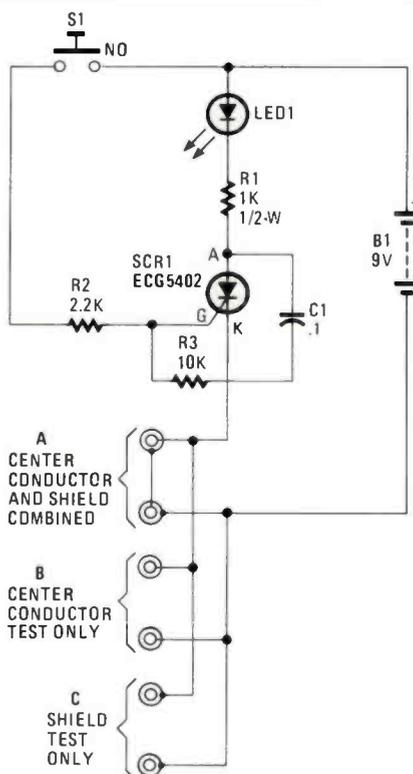
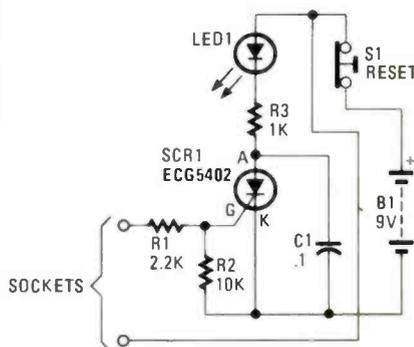

Fig. 1—Open-Circuit Detector
Fig. 2—Short-Circuit Detector
If I had not had the two simple cable-test sets, Murphy would have had me in a most embarrassing predicament. But, as it ended up, I made a good show out of what could have been a very bad and costly one, by using the two cable-test sets shown in Fig. 1 and Fig. 2.
The circuit in Fig. 1 is designed to check almost any two-conductor cable for open-circuit conditions that usually only show up when the cable is moved about—most often referred to as the intermittent open-circuit cable syndrome. The Open-Circuit Detector uses a single active solid-state device, a low-current silicon-controlled rectifier (SCR1) to act as a forget-me-not circuit, that will remember to supply current through the LED as long as the return current path through the cable under test remains complete.
If an intermittent-open cable isn't enough for Mr. Murphy, he will introduce you to that infamous *will-o'-the-wisp* short circuit that can come and go at will. Never fear, 'cause we've got Murphy covered on this one too. The ultra-simple circuit in Fig. 2 will ferret out any shorted two-wire cable in a New York minute with
**Fig. 1—A  $5\frac{1}{4}$ -inch floppy disk closely resembles a 45 rpm record; but instead of grooves, the computer formats magnetic tracks that are magnetically divided into sectors. The tracks can be on one or both sides of the disk, in which case they can be treated as individual disk drives, say Drive A and Drive B, or as a single drive. When both sides are used as a single drive the tracks are considered to be the tops and bottoms of a cylinder. Although there are 40 tracks per side, the computer "sees" not 80 tracks total, but 40 cylinders.**
The cylinder concept, shown in Fig. 1, really made it possible for a computer's operating system to easily use single- or double-sided drives. Basically, in a very
If you examine the track layout in Fig. 1, it appears visually that each track is the top and bottom of a cylinder, so the powers that be (the same kind of folk who decided cycles-per-second will be henceforth known as Hertz) decreed that that kind of track/sector arrangement will be called a *cylinder*. Unlike early controllers, which treated each track independently of the others, cylinders are treated as a single track of 18 sectors: the computer can write to either side. For example, if a BASIC program required two full tracks to store data, the computer could write the data to a single cylinder, actually two tracks: one on each side of the disk. That's the reason why IBM-compatible disk drives are also known as 40-cylinder drives. It means 80 tracks: 40 on each side.